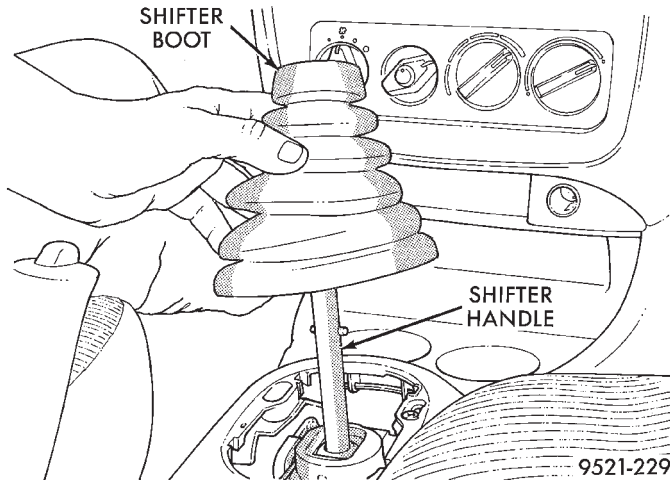

Fig. 9 Boot Removal
(1) Remove shifter knob. Refer to gearshift knob removal.
(2) Squeeze together the boot bezel at base. Pull up on boot and remove (Fig. 9).